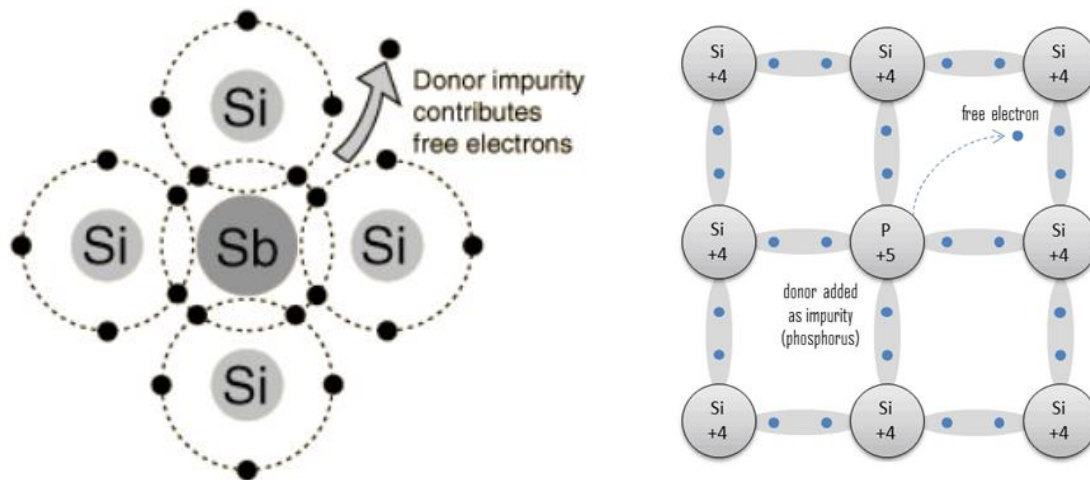

Fig.6 : n-type extrinsic semiconductor
If a silicon or germanium atom in its pure form is doped with pentavalent element such as antimony (Sb), arsenic (As) or phosphorus (P). These elements having 5 electrons in their outermost shell react such that they form a covalent bond with the four electrons of silicon, and one electron is left free as a mobile charge carrier, which improves the conduction ability to some extent. The resultant material is known as an n-type semiconductor. Fig. 6.
As it can be seen in the figure, the polarity of the battery is the same as the polarity of the potential barrier; this means that the voltage of the battery enforces the potential barrier. The positive voltage applied to the N-type side attracts electrons towards the positive electrode and away from the junction, while the holes in the P-type side are also attracted away from the junction towards the negative electrode. If the reverse biased voltage applied on the p-n junction diode is further increased, then even more number of free electrons and holes are pulled away from the p-n junction. **This increases the width of depletion region.** Hence, the width of the depletion region increases with increase in voltage. The wide depletion region of the p-n junction diode completely blocks the majority charge carriers. Hence, majority charge carriers cannot carry the electric current. However, a very small reverse leakage current does flow through the junction which can normally be measured in micro-amperes (μA), see fig. 6.